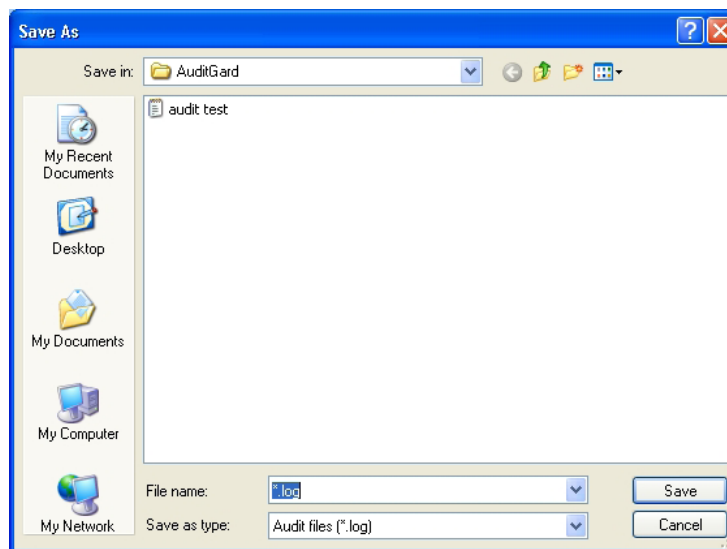

Figure 21
2. Enter the file name to be saved (Figure 21).
3. Click the **Save** button (Figure 21).